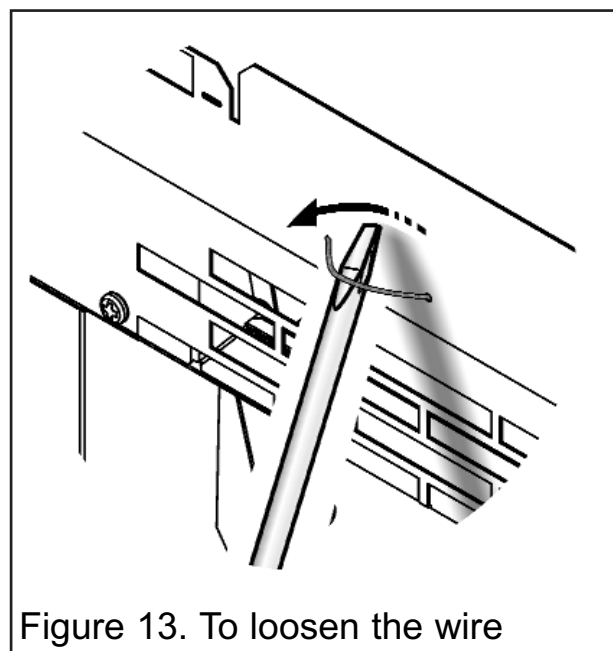

Figure 13. To loosen the wire
**2.** The firefront is held in place with a single wire. It will be necessary to loosen and remove the wire at one side. Do this by placing a flat ended screw driver or similar tool behind the wire loop on the front of the firefront (See figure 13). Push the wire loop towards the outer hole and pull on the wire where it passes through an outer hole in the firefront. The wire should become loose and can then be pulled from the outer hole. With the end of the wire free, gently pull the firefront forward.